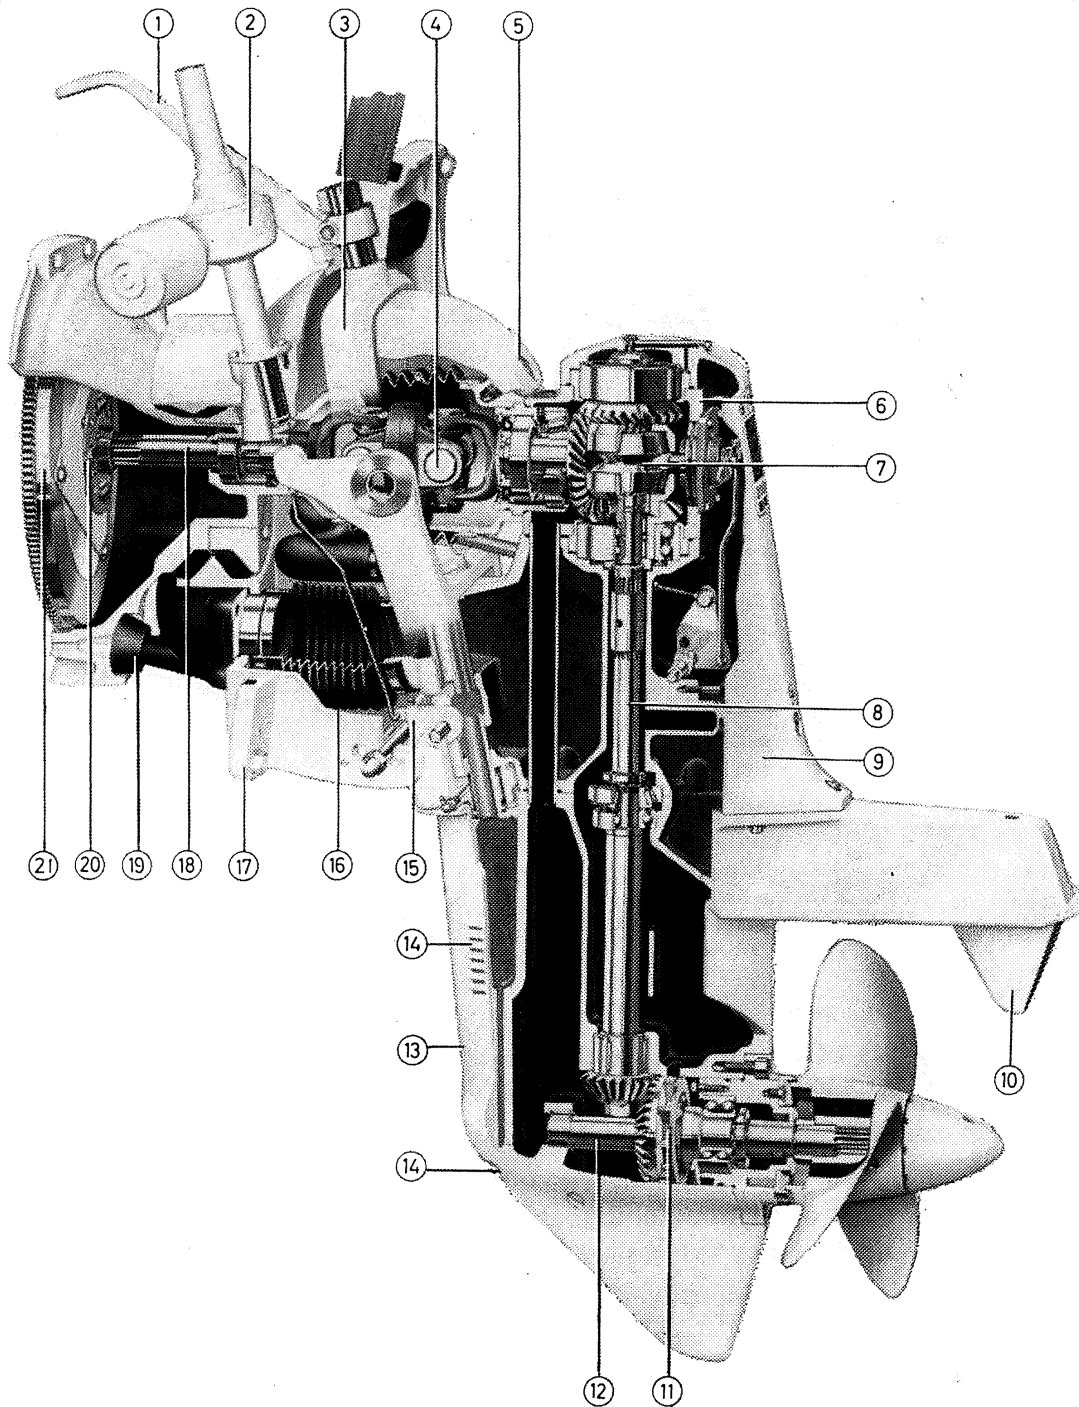
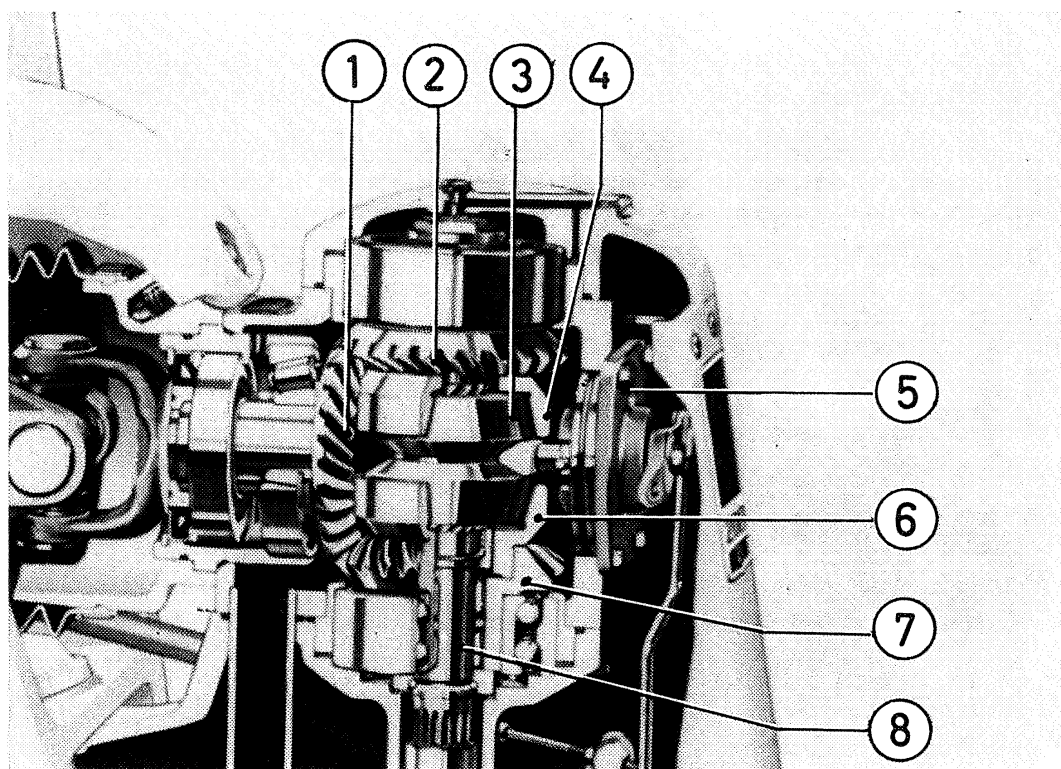

Fig. 22. Cross-section of the outboard drive
Fig. 23. Upper gear housing
The power from the engine is transmitted to the upper gear housing through the vibration damper (20, Fig. 22), the shaft (18) and the double universal joint (4). From the universal joint the power is transmitted to the input gear (1, Fig. 23) of the reverse gear, which is in constant mesh with the gears (2 and 7). These gears are carried on the shaft (8) so that they can rotate independant of the shaft. Between the gears (2 and 7) there is a cone clutch (7, Fig. 22) which makes possible disengagement and reversal of the direction of rotation of the vertical shaft (8). The lower end of this shaft drives the propeller shaft (12) through taper gears.
The vertical shaft (8, Fig. 23) is provided with a thread between the forward and reverse gear wheels (7 and 2) and on this thread the engaging sleeve (3) can be moved up and down by means of the control mechanism (5).
When running in reverse, the outboard drive is kept in its normal position by means of a retaining pawl (15, Fig. 22).
The steering of the outboard drive is obtained by transmitting the steering wheel movements through a steering arm (1, Fig. 22), which is located inside the transom and attached to the steering fork (3). The steering arm is independent of the tilting of the drive. The lower parts of the fork arms are carried in a steering casing (5) which is, in its turn, bolted to the upper part of the outboard drive. The steering angle of the outboard drive is about 30° from the neutral position. Since the direction of the propeller driving force is altered when the drive is turned, this gives the boat excellent steering properties.
In order to facilitate the tilting-up of the drive, this is fitted with an electro-mechanical lift device (2, Fig. 22) which is operated from the driver's seat. The lift device is mounted on the inside of the transom shield and consists of an electric motor which actuates the suspension fork with a push rod via a worm gear. The push rod releases the retaining pawl and pushes the drive into tilted-up position. The electric motor stops automatically when the drive has reached its fully tilted as well as its fully lowered position. When the drive is being tilted up, it is automatically centered independent of the position of the steering wheel. The maximum tilting angle is about 65° .
The drive has an oil system which is common to both the upper and the lower gear housing. The oil is circulated to all gears and bearings by means of a circulation pump (11, Fig. 22) fitted on the gear in the lower gear housing. The water which flows past the lower part of the outboard drive cools the oil.